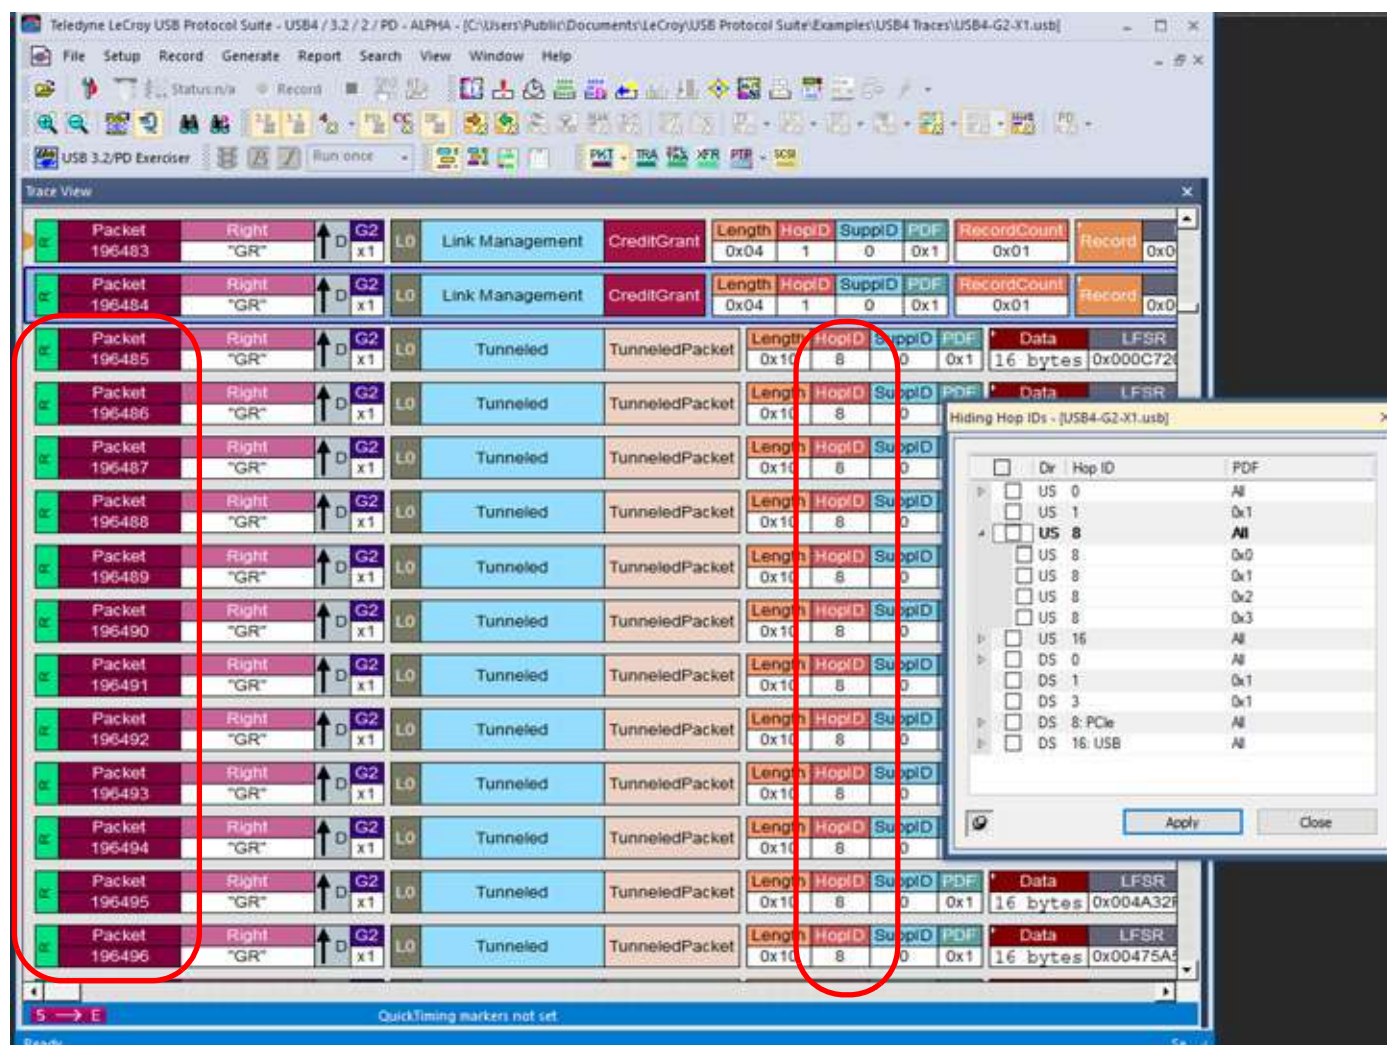

Figure 6.10: Toolbar Showing Upstream HopID = 8
The first figure has several instances of upstream (US) HopID of 8. from Packet 196485 to Packet 196496. See Figure 6.10